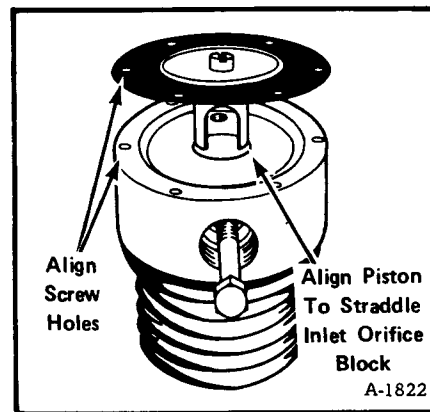

Fig. 74 Aligning Piston to Body
(1) Position a new diaphragm (Item 9) over the piston (Item 20) and lay the retainer (flange up) on the diaphragm. Secure the parts with the diaphragm screw, but do not tighten at this time.
(2) Check the condition of the inlet orifice (Item 13). If it is damaged at the orifice shoulder, replace this part.
(3) Insert the inlet orifice block into its bore temporarily. This part has a slot and rides on a dowel pin located in the bore to prevent the part from being installed improperly.
(4) Position the assembled diaphragm and piston into the bore (Fig. 74) so that the piston straddles the inlet orifice block without rubbing against it.
(5) Align the six screw holes of the diaphragm with the holes in the vaporizer head and tighten the diaphragm screw (Fig. 74). Hold the diaphragm and retainer to keep them from moving when tightening the screw.
(6) Remove the assembled diaphragm and piston and the inlet orifice block from their respective bores after proper alignment has been determined.
(7) Check the inlet valve seat. If the neoprene disc is damaged or badly worn, replace the entire unit.